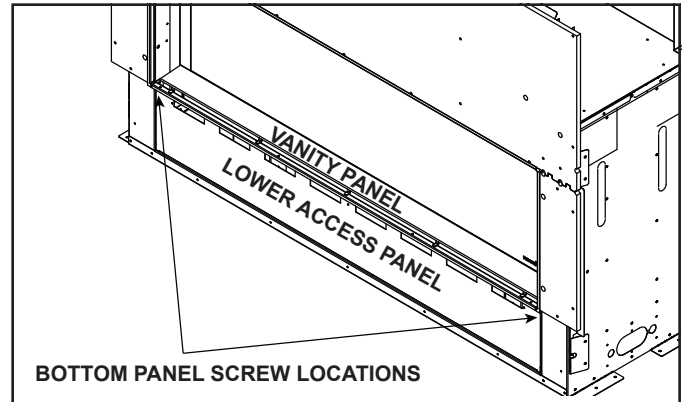

Figure 8.1 Lower Access Panel Location
1. Remove bottom metal panel by removing two screws. Screw locations are shown in Figure 8.1. After removing two screws, gently lift the panel off the appliance avoiding contact with the non-combustible board if possible.